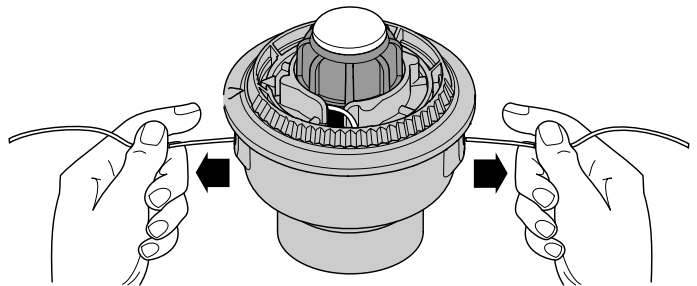

Fig. 18
9. If winding the line becomes difficult or the line jams, pull the ends of the line from the spool (Fig. 18). Continue winding the inner reel counterclockwise.
4. Hold the inner reel in place and install the bump knob, spring and foam seal. Press down and turn the bump knob clockwise. Grasp the ends and pull firmly to release the line from the holding slots in the inner reel (Fig. 18, Pg. 13).
If the SpeedSpool® does not release line correctly, pull the ends of the line firmly from the spool (Fig. 18, Pg. 13). If this does not release line, follow the **Cleaning the SpeedSpool®** instructions.